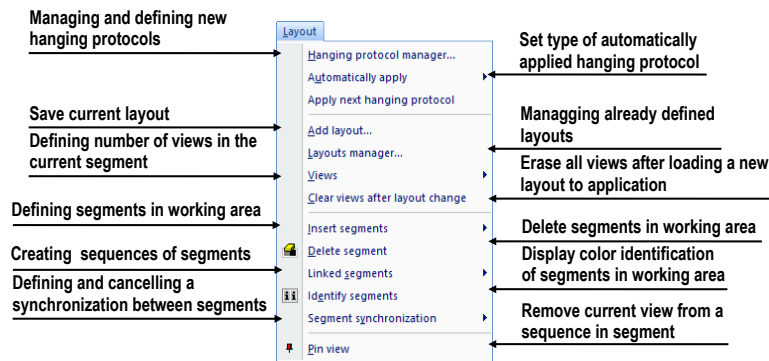

Figure 44 – Layout menu
- **Layout** – the functions for managing layouts and hanging protocols in TomoCon, such as creating a layout or hanging protocol, defining sequences or synchronizations, etc. (see Figure 44).